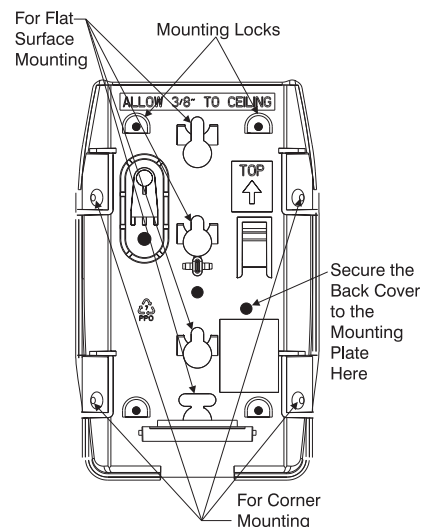

Figure 7. Mounting Plate
2. Use the mounting plate to mark the mounting holes on the mounting surface (See Figure 7).